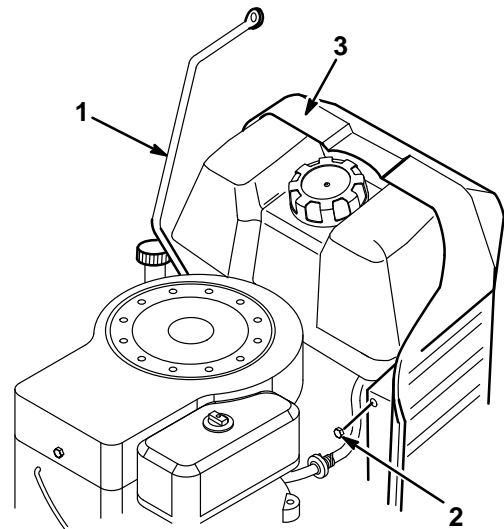

Figure 1
2. Remove the left side screw securing the fuel tank rod and tilt rod up. Set the fuel tank on engine to gain access to the back side of the dash (Fig. 1).